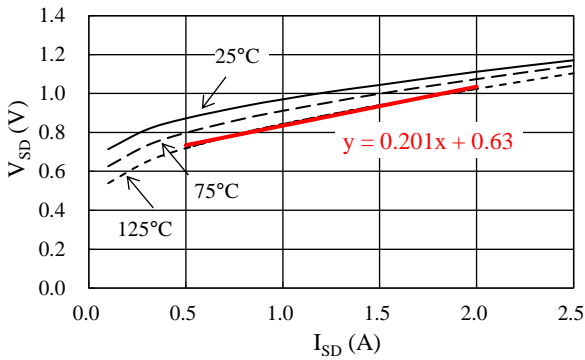

Figure 14-4. Linear Approximate Equation of  $V_{SD}$  vs.  $I_{SD}$
- $V_{DC}$  is the main power supply voltage (V), i.e., the VBB pin input voltage, and
Steady-state loss in the body diode of a power MOSFET can be computed by using the  $V_{SD}$  vs.  $I_{SD}$  curves, listed in Section 15.3.1. As expressed by the curves in Figure 14-4, a linear approximation at a range the  $I_{SD}$  is actually used is obtained by:  $V_{SD} = \alpha \times I_{SD} + \beta$ . The values gained by the above calculation are then applied as parameters in Equation (11), below. Hence, the equation to obtain the body diode steady-state loss,  $P_{SD}$ , is: